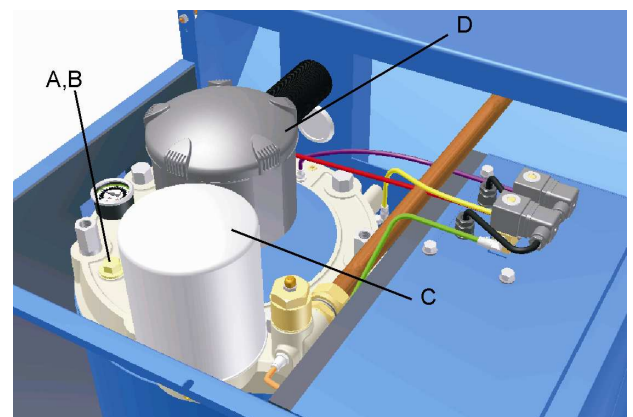

Fig 7.1 Filler Plug, Air Filter and Separator
7.5 Oil Filling/Draining (Fig.7.1/7.2)
7.7 Air Filter (Fig.7.1)
7.8 Oil Separator (Fig.7.1)